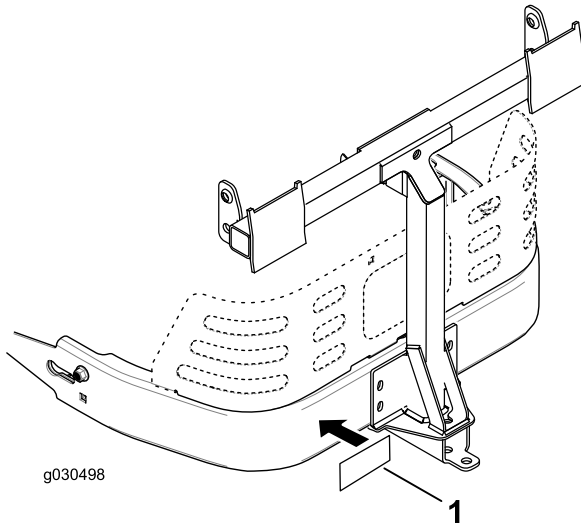

Figure 17
3. Attach the draw-bar decal 1.3 cm (1/2 inch) to the left of the attachment mount (Figure 17)